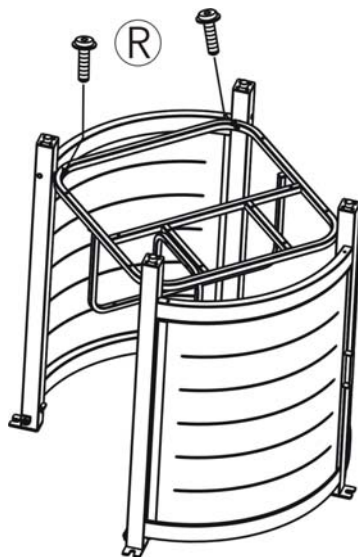
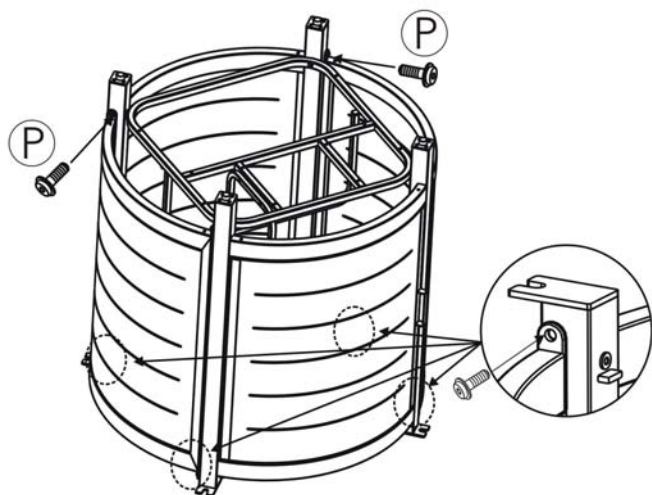

Figure 3a
Figure 3b
3. Attach the LP support frame to the back panel and front panel with door by using four 1/4" x 30mm bolts. The front panel should be on the side closest to the LP tank retaining knob. As shown in Figure 3a. Attach the side panels to the front and back panels by using eight 1/4" x 20mm bolts, as shown in Figure 3b. Hand tighten only 2-3 turns.